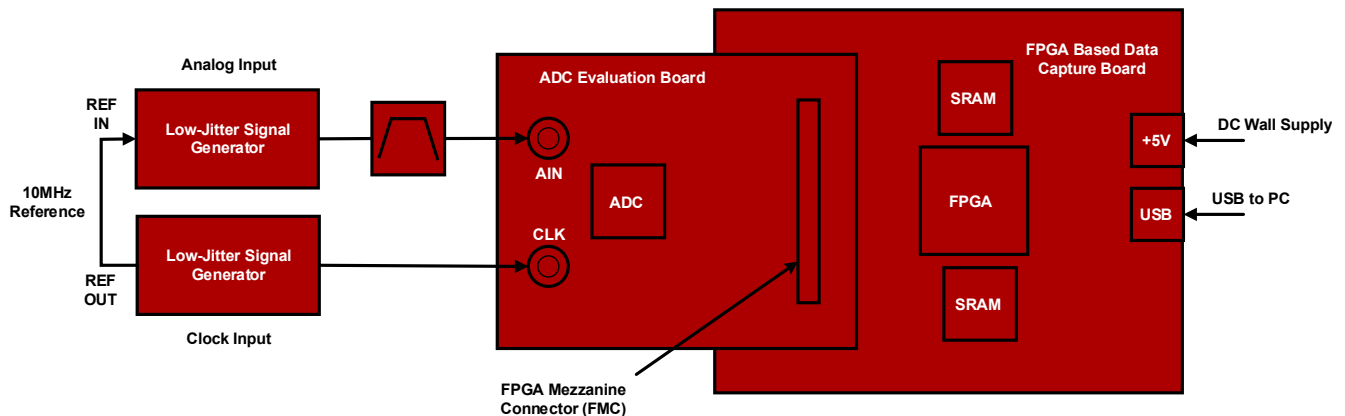

Figure 1. Evaluation Platform Block Diagram
The radiation hardened precision SAR ADC evaluation platform consists of custom designed hardware (RHADC-FMCEV1Z) and software (iRADAnalyzer). The function of the hardware is to excite and/or measure the appropriate analog and digital inputs and outputs of the Renesas portfolio of low-power, high-performance radiation hardened Successive Approximate Register (SAR) Analog-to-Digital Converters (ADC). The iRADAnalyzer software is required to configure the device for initial operation, to modify the device functionality or parameters where applicable, and to process and display the output data (see Figure 1)
There are two components in the hardware portion of the evaluation platform: the RHADC-FMCEV1Z motherboard and the ADC daughter card (Figure 1). The ADC is contained on the daughter card that contains the analog input and clock circuitry. The daughter card interfaces with the motherboard through a High Pin Count (HPC) FPGA Mezzanine Connector (FMC). The daughter card was designed to be compatible with the Vita 57.1 standard. The motherboard contains a USB interface, an FPGA, and four banks of SDRAM. The motherboard serves as the interface between the host PC and the ADC daughter card. The daughter cards have jumpers that set the operating voltages. The FPGA accepts output data from the ADC and buffers it in the SDRAMs before passing it to the PC at a lower speed for post-processing. The maximum buffer depth is 32 Megawords (225), however, the evaluation software is capable of processing data records only up to 1 Megaword (220) deep. If usage of the full 32 Megaword depth is required.
1. Referencing to Figure 1, connect the daughter card to the motherboard by aligning the two mating FMC connectors. Four screws on the motherboard (not shown) align with mounting holes in the daughter card.